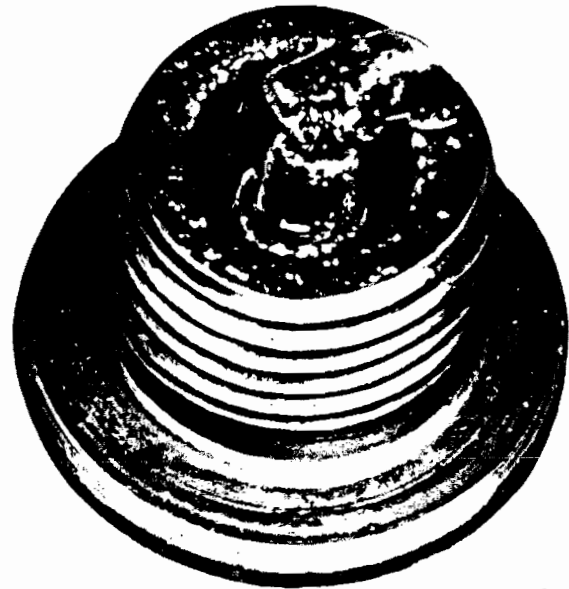

Fig. 4
(1) OIL FOULING (Fig. 4) is usually identified by the wet, black shiny deposit which results from the following engine and spark plug conditions: